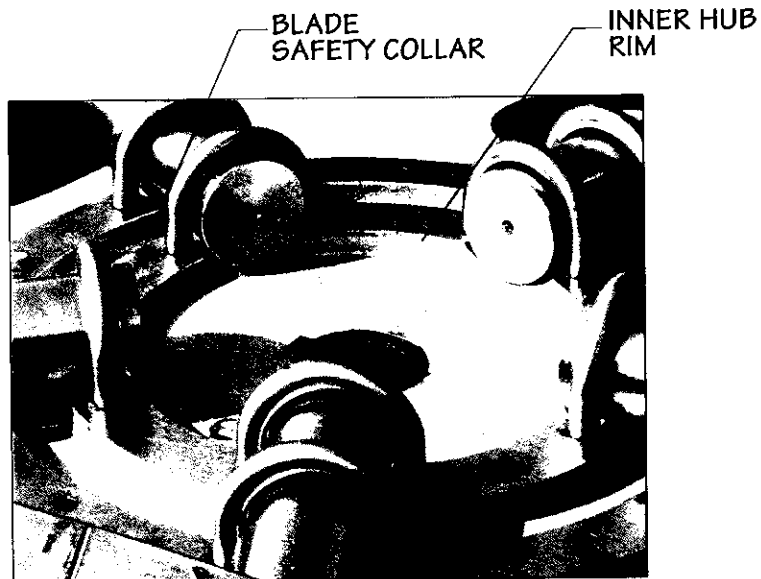

Figure 3
- 4—Ensure the blade shank safety collar is inboard of the inner hub rim. Refer to **Figure 3**.
- 6—Pull blade radially outward to be certain the shank safety collar is in contact with hub inner ring. Refer to **Figure 3**.